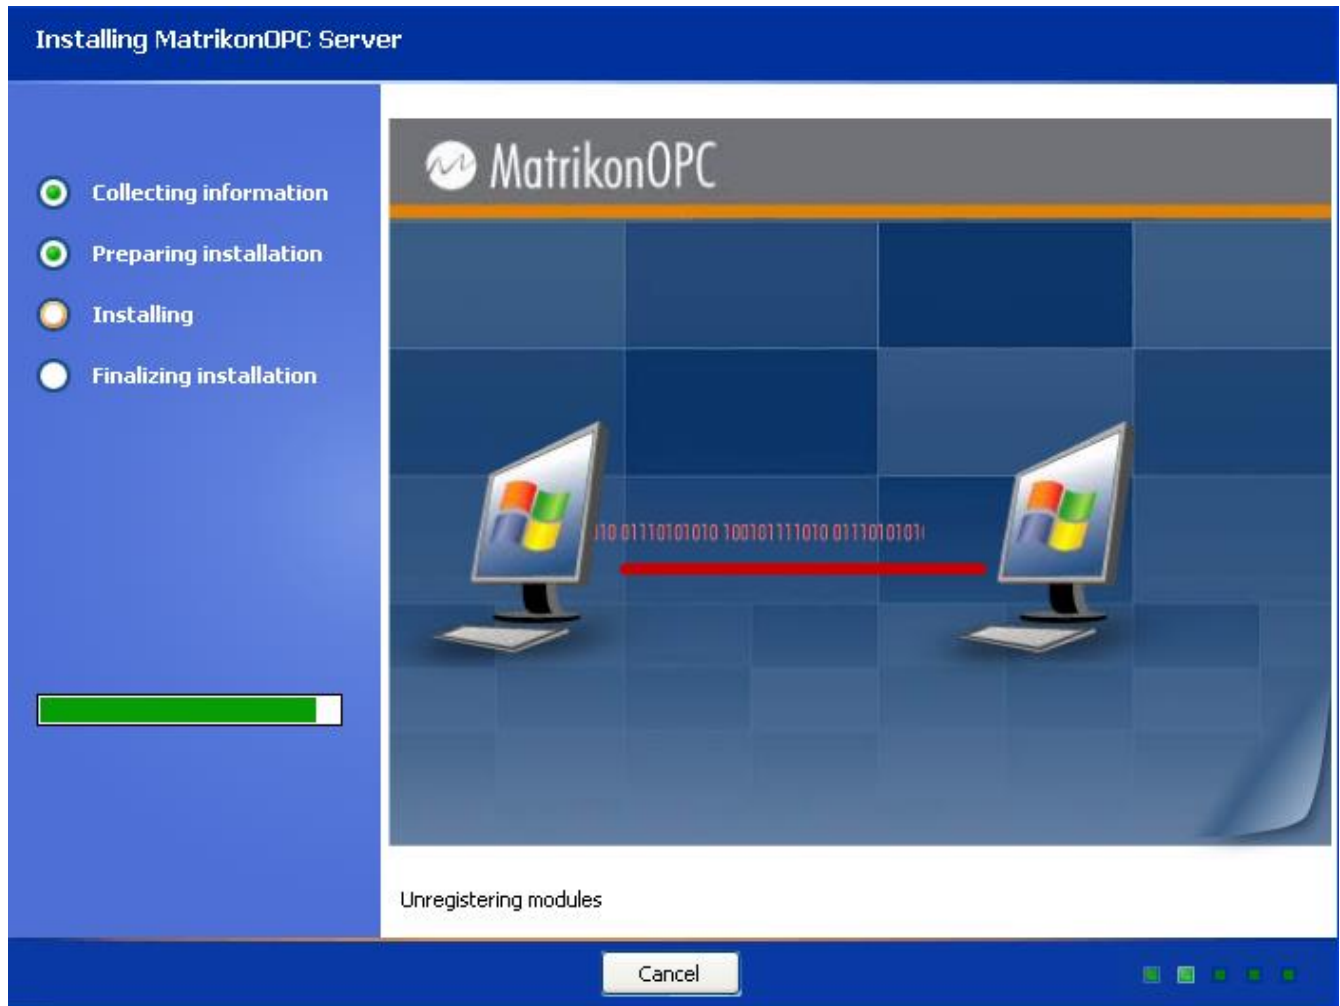

Figure 67 - Installing MatrikonOPC Server Screen
20. Click on the **Next** button. The **Installing MatrikonOPC Server for Triconex** screen (Figure 67) appears, installation begins, and the product files are copied to the computer.